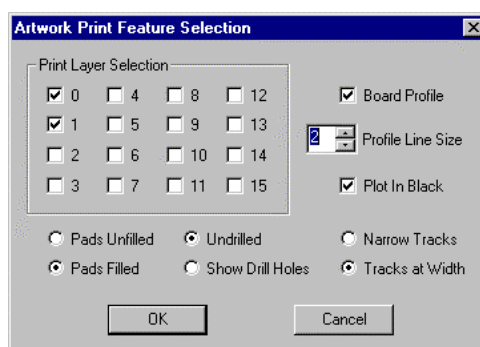

Figure 14. 11
Select **File** ⇒ **Print**, the window will change and appear similar to that shown in Figure 14. 10, except the board design will be visible instead of the circuit schematic.
**Select** - when selected, a window similar to that shown in Figure 14. 11 appears.